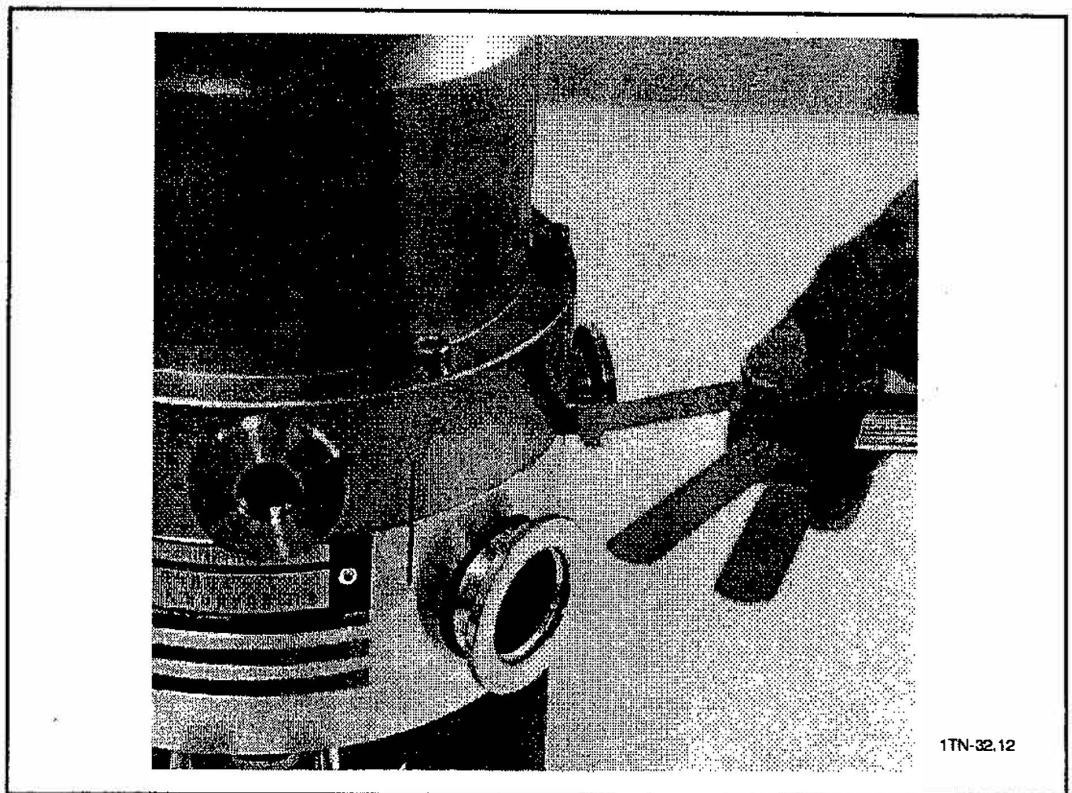

Figure 4-11. Checking that the Housing/Base Gap is Uniform
- a. Using a feeler gauge, ensure that there is a gap between the pump base and pump housing (Figure 4-11) and that this gap is uniform around the circumference of the pump base (the size of the gap isn't critical).